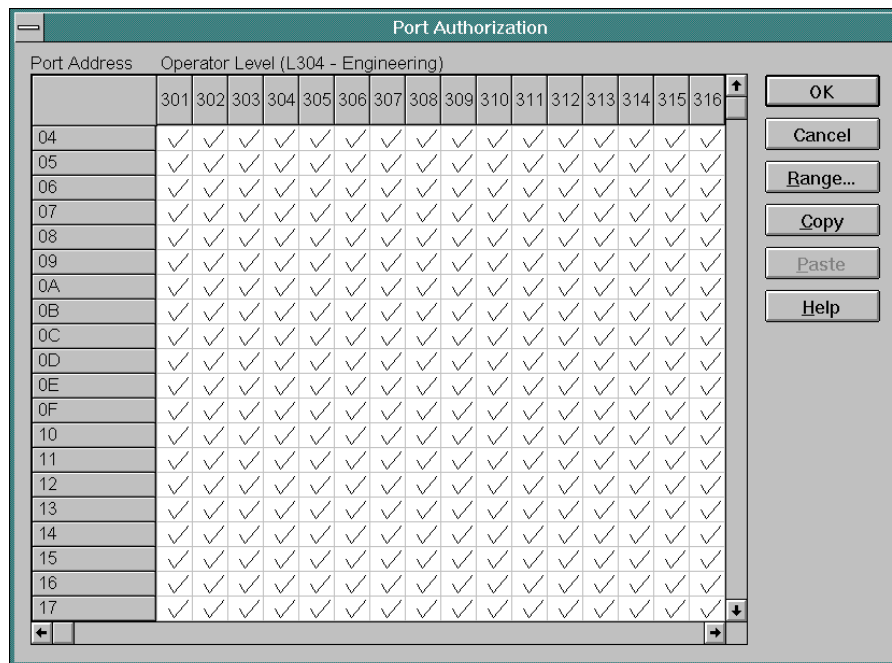

Figure 182. Port Authorization Dialog Box (Unmodified)
7. Select the *Port Authorization* option from the *Utility* menu. The *Port Authorization* dialog box appears (Figure 182).